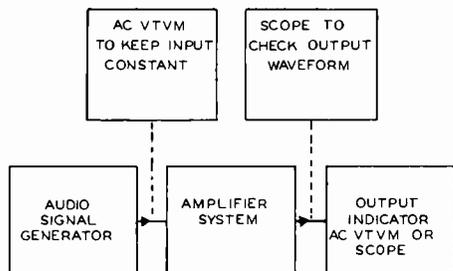

Fig. 7. Amplifier tests using Audio Signal Generator.
**Servicing With Audio Generators.** The audio frequency generator can be connected to the amplifier under test in the manner shown in Fig. 7. The output indicator can either be an ac vacuum tube voltmeter or an oscilloscope. A rough check can be made using the audio signal